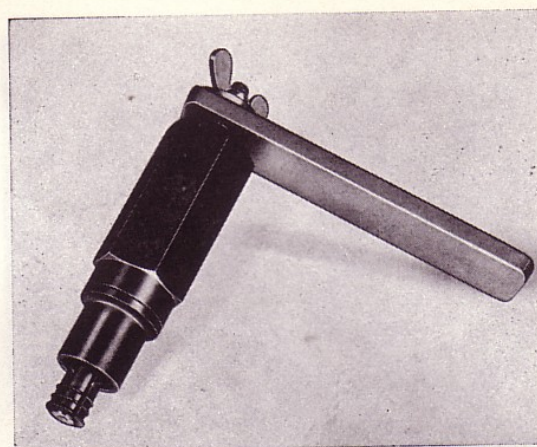

Fig. 65. Tool for removing bush
1. Press, knock or pull out the worn bushes with the help of a suitable tool. Special tools for the brush holder end shield are shown in Figs. 65 and 66.